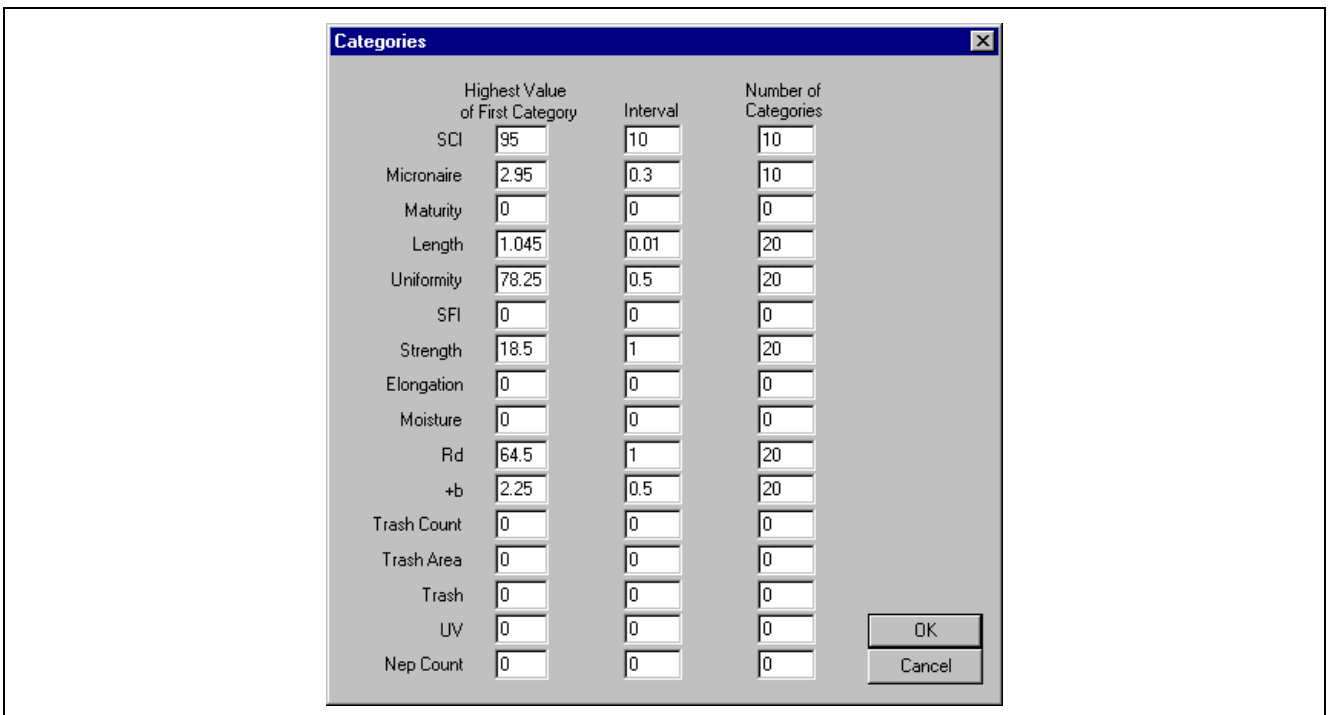

Fig. 6-44 Reports Category Screen
12.6 Select Categories to view the Category window. Highlight and Delete each of these values for SCI Highest Value of First Category, Interval and Number of Categories. Enter the new Final Category Definition values 95, 10, and 10 respectively (Fig. 6-44).